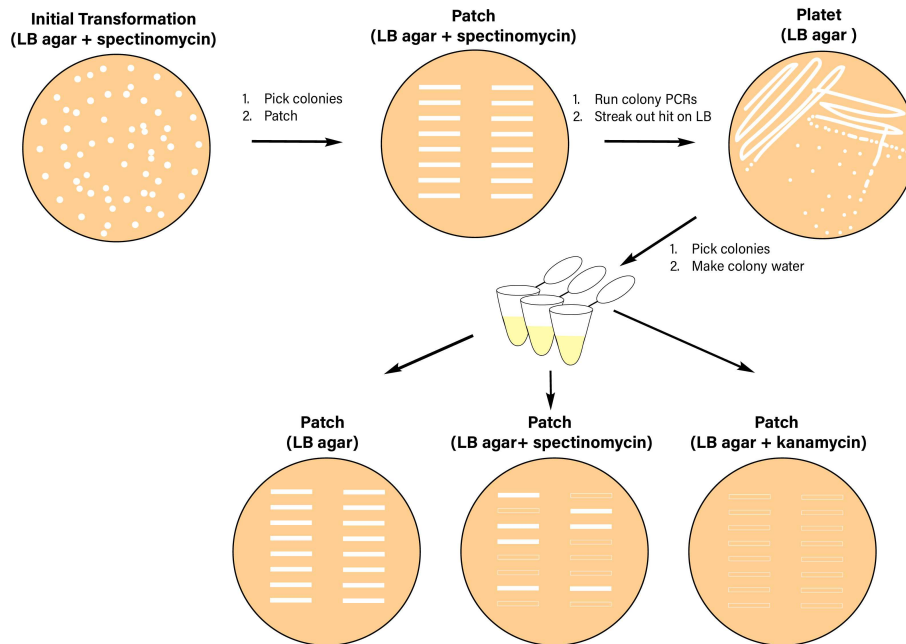

Figure 5: Overview of workflow to establish clonally pure cell line.
- We classify a colony as a hit if it grows on LB agar, but not on LB agar + spectinomycin or LB agar + kanamycin (**Figure 5, bottom row**). This would indicate that the chromosomal integration was successful and that the cells have cleared the Cas9 plasmid.